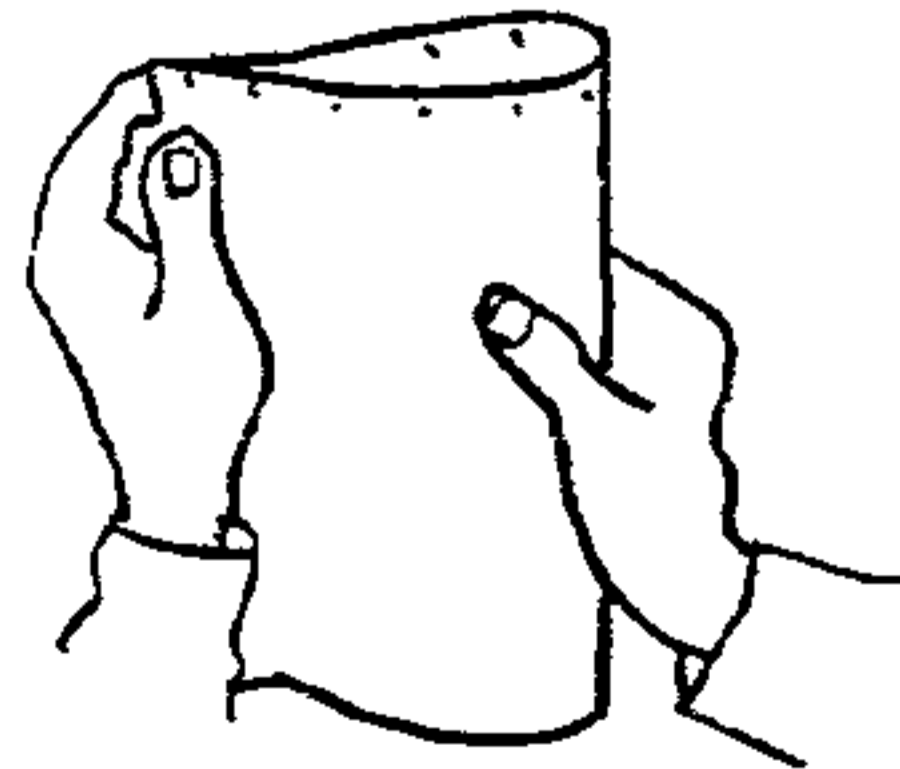

Figure 4-2
4. Punch a test sheet of paper. Fold punched test sheet to check punch hole location and alignment from edges of paper to ensure holes are equally spaced from edges of sheet (see Figure 4-2) Adjust Punch Edge Guide "A" if necessary, and recheck test sheet punched after adjustment.